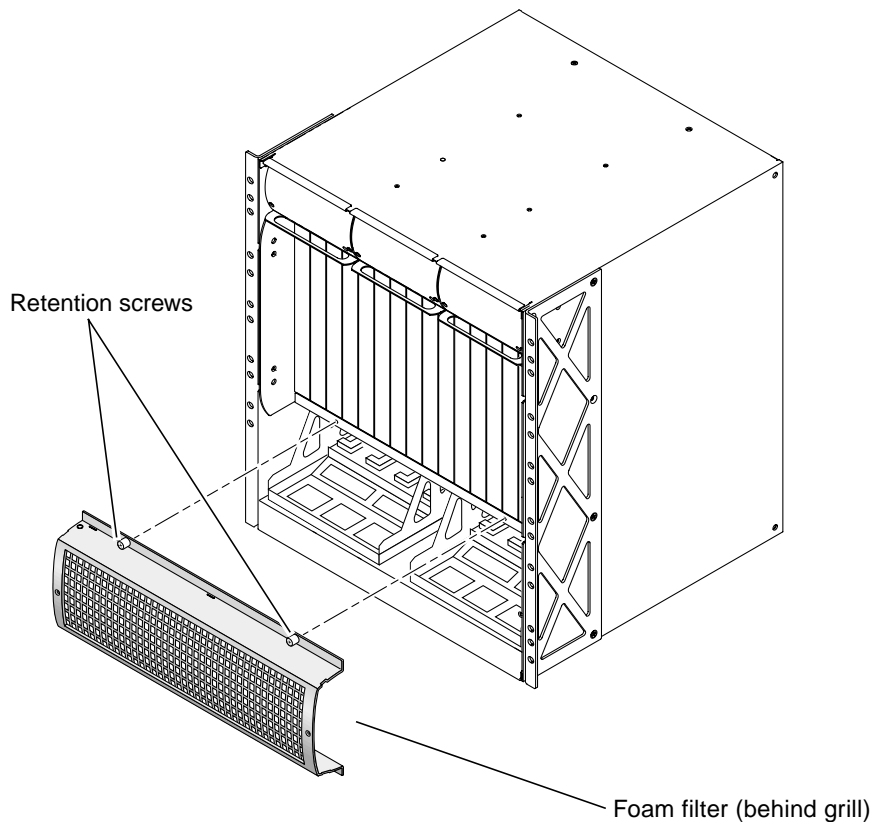

FIGURE 6-4 Intake Grill and Air Filter
1. **Unscrew the two retention screws at the top of the air intake grill (FIGURE 6-4).**